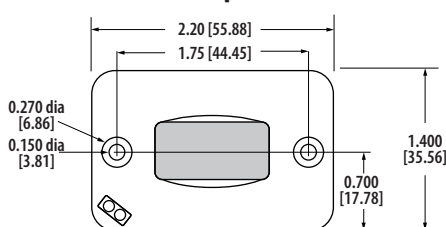

Figure 2
2. Mount the meter with screws, double sided tape, or Velcro. If using screws, use the meter to make a template for drilling holes with 7/64” drill (see Figure 2 for mechanical dimensions). **DO NOT DRILL** into GAS TANKS or ENGINE CRANKCASE: If in doubt, contact your dealer.